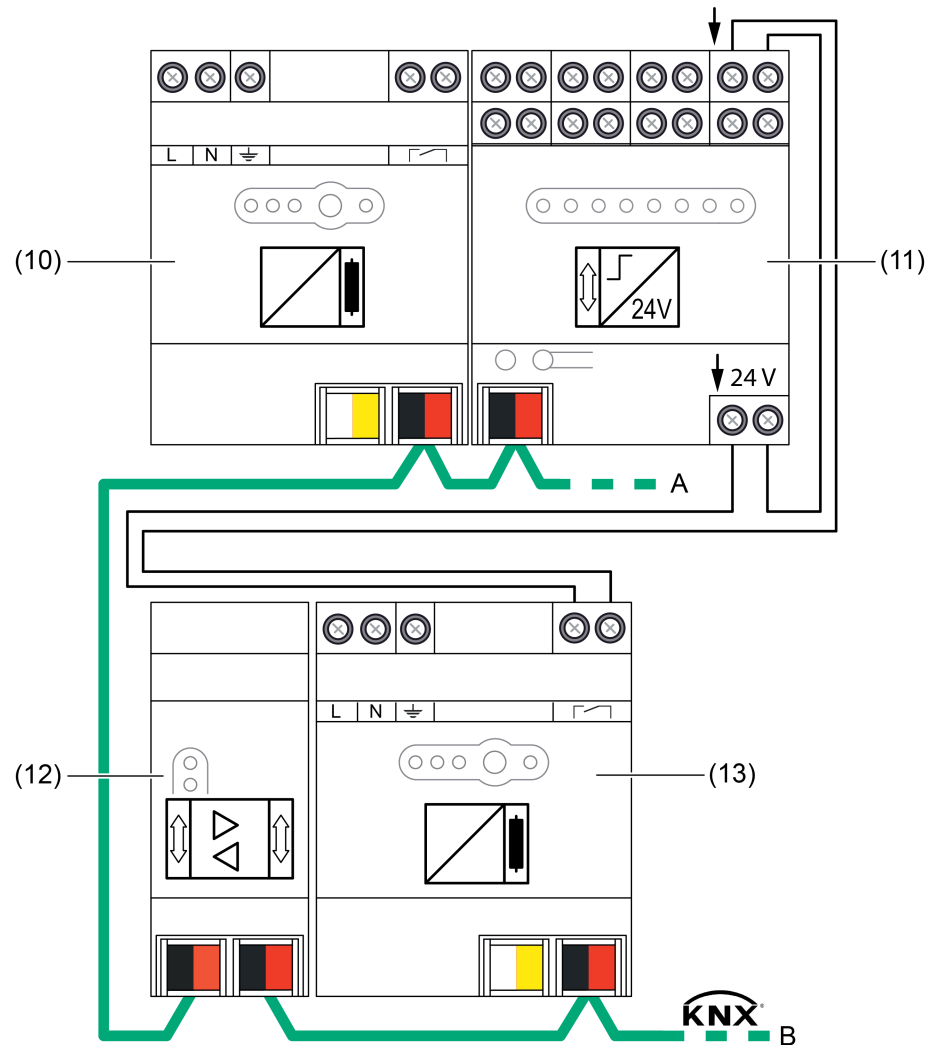

Figure 4: Connection example for KNX binary input
- Connect the KNX binary input according to the connection example (figure 4)Connecting .